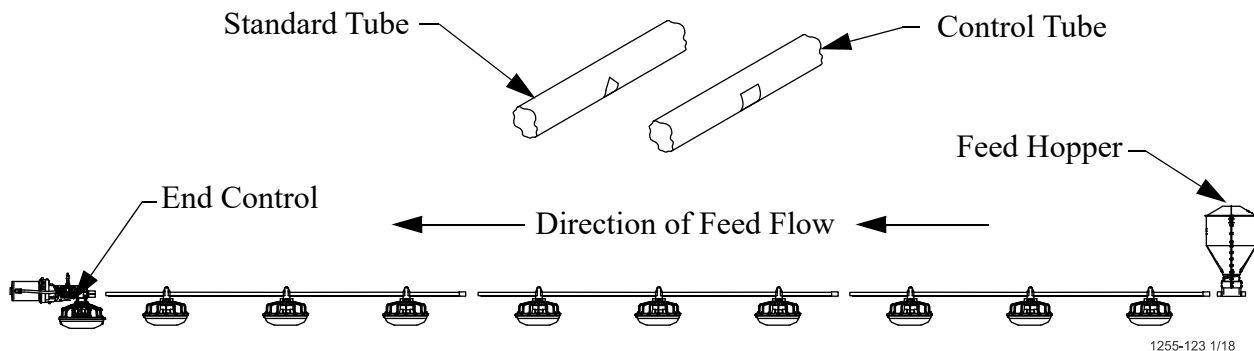

Figure 23. Hanger Installation
1. The auger tubes and feeders may be laid out end to end in approximately the final location of the line. **The belled end of each tube should be toward the Hopper end of the line. (See Figure 23.)**